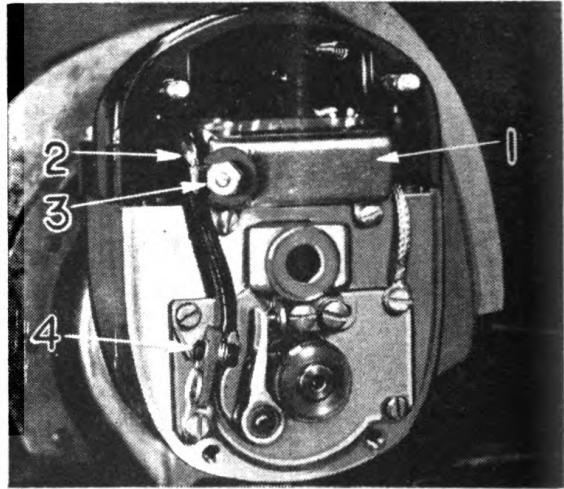

Fig. 50. Running Test of Magneto on Synchroscope
1. If the magneto is still dead, run it at the same speed as it runs on the tractor and observe the contact points. In normal running there should be some tiny arcing between the contact points. Fig. 50.
3. Remove the primary lead wire from the condenser leaving it connected to the coil and the breaker spring screw. Fig. 50. If excessive arcing at the contact point results, this indicates that the condenser was at fault. This would also be indicated by excessive missing at the spark gaps or perhaps the inability of the magneto to jump $\frac{3}{8}$ inch gap.